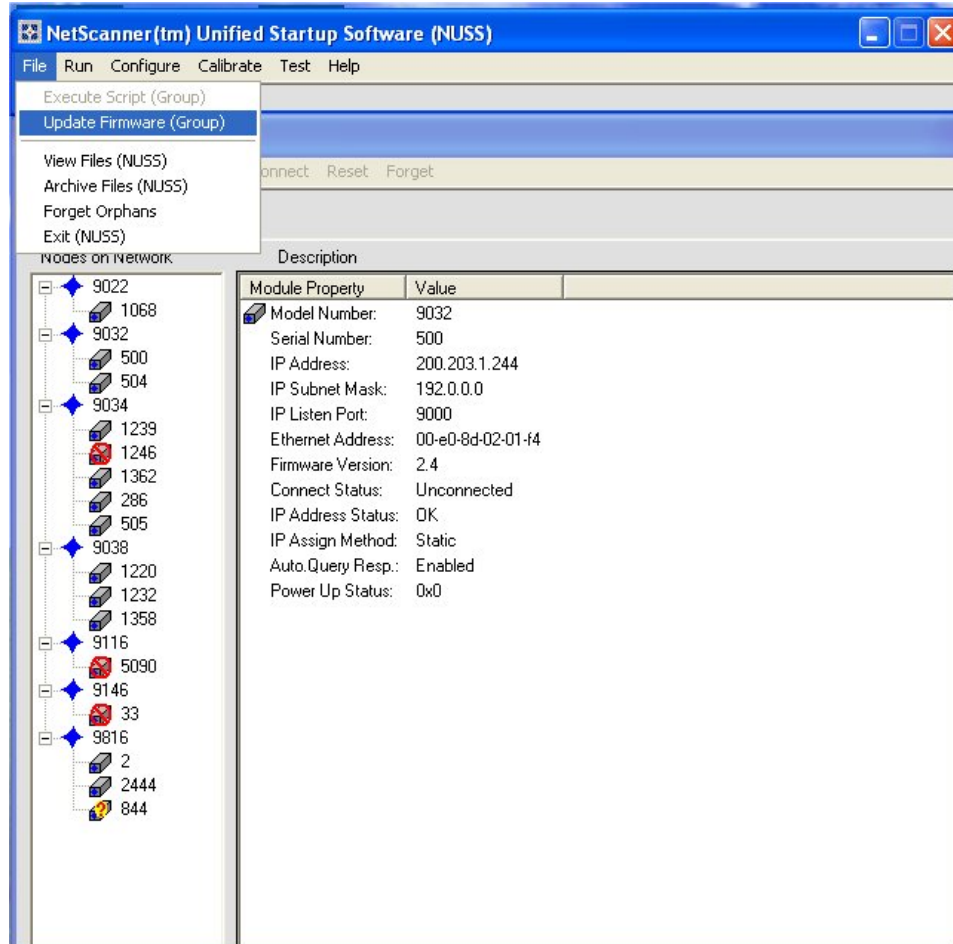

Figure 5.12
- Establish a connection to the module in accordance with the directions given with the **NUSS** application. Once the connection to the module has been established, four (4) menu selections become available, including one labeled **"Update Firmware"**. Selecting this option opens an additional window that allows the user to download new firmware to the module. (See screen depiction, next page, **Figure 5.12.**)